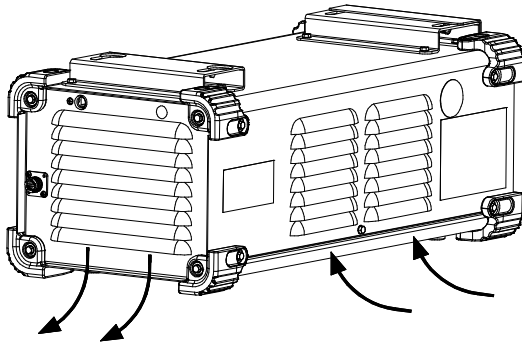

Figure 4.
- 9. Airflow Slots: Enable proper circulation of air cooling (Figure 4).